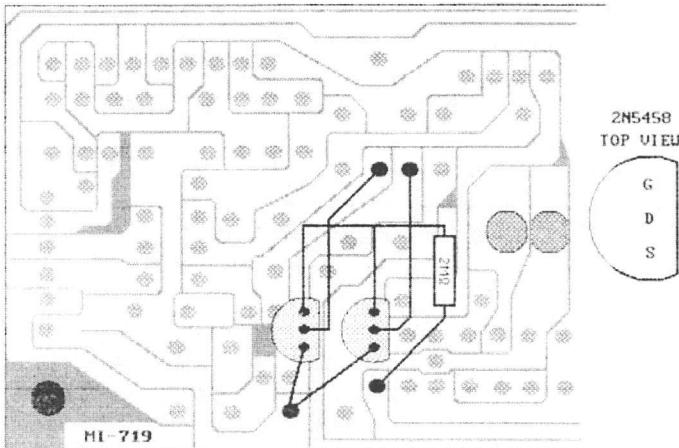

Fig. 2. Input board left side
1. Remove input board and install FET's and $2\text{ M}\Omega$ resistors as indicated in Fig. 2 and 3. All components must be installed on the foil side of the board. Re-install board.